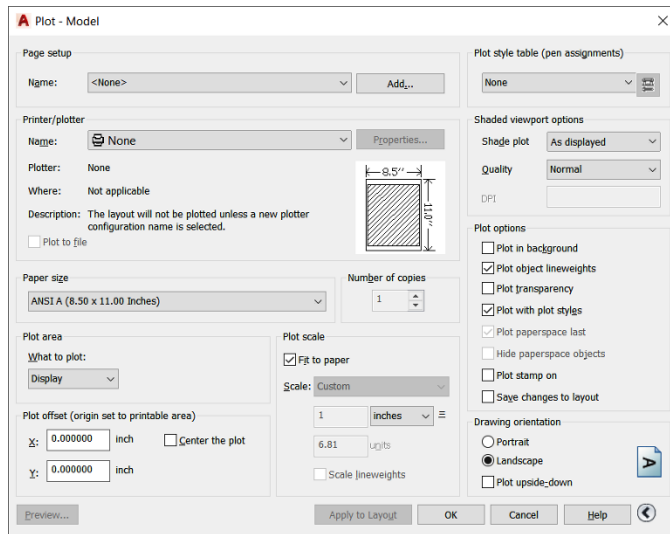

FIGURE 16-2:
The Plot dialog box reveals additional settings, as shown in Figure 16-2.
12. In the Plot Options area, make sure that the Plot with Plot Styles check box is selected and that the Save Changes to Layout check box is deselected. (Refer to Figure 16-2.)